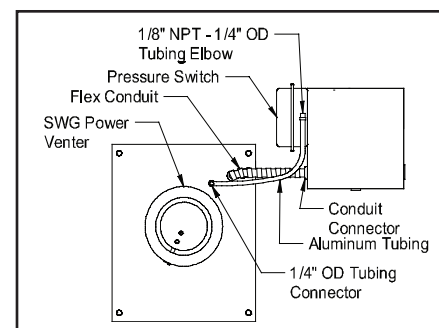

Figure 11
1. Attach the 1/4" tubing connector to the pressure tube on the SWG Venter. (See Figure 11)